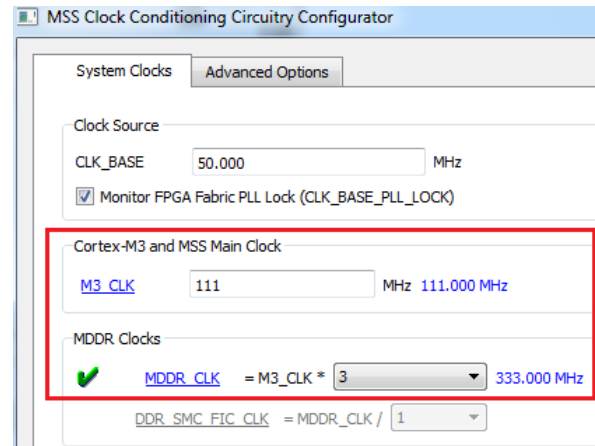

Figure 1-24 • Configuring MDDR_CLK
5. Configure the MSSCCC for MDDR_CLK. In this example, MDDR_CLK is configured to 333 MHz, as shown in Figure 1-24.